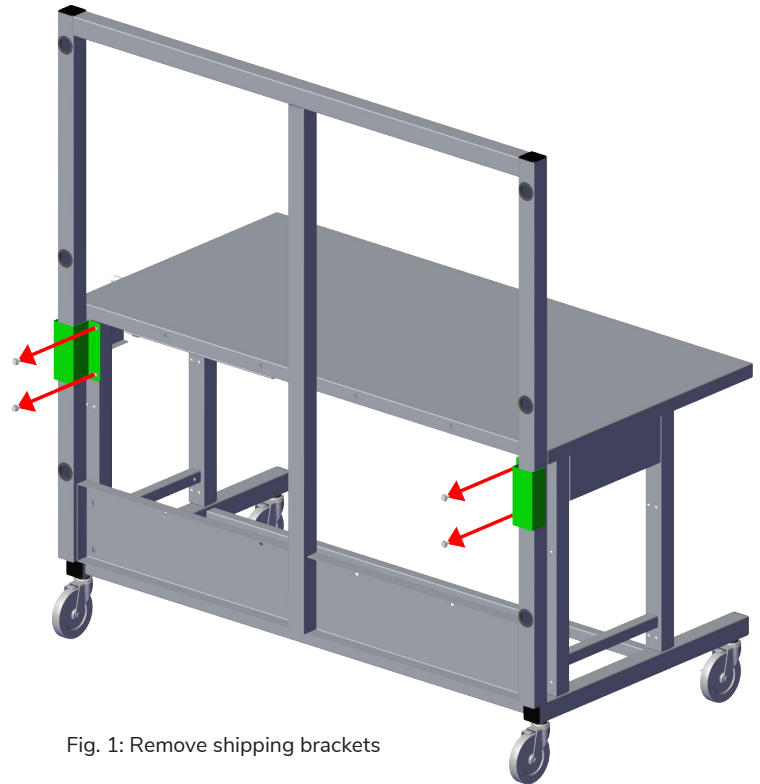

Fig. 1: Remove shipping brackets
9. To raise the back frame to its operational position, remove the four hex bolts and washers that hold the back frame in its shipping position (Fig. 1).
10. Remove the the two shipping brackets (Fig. 1). (shown in green). Save these in case the Prep and Pack Table is moved to another location.